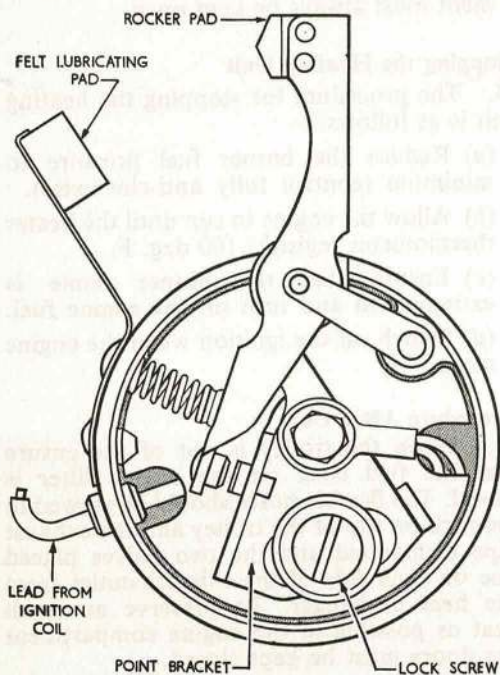

Fig. 12. CONTACT BREAKER
37. Access to the contact breaker is obtained by removing the engine cowl, the dust cover on the flywheel, and the contact breaker cover (Fig. 12). If the points are pitted, dirty or worn unevenly, they should be cleaned and